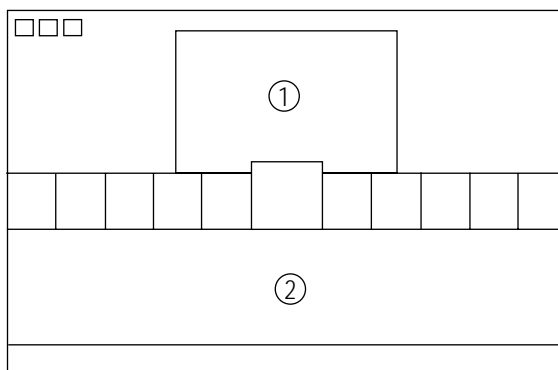

Fig. 4-4
1. Set SBT to 2.5 ± 0.5 fL in the Factory Service Mode with using CA100. See Fig. 4-4 ②.
1. Set SCT to 50 FL (21" Flat) in the Factory Service Mode with using CA100. See Fig. 4-4 ①.